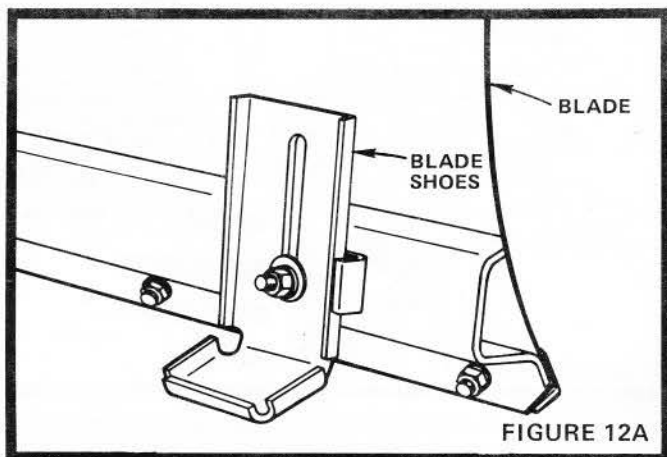

FIGURE 12A
13. Reassemble Blade Shoes on ends of Blade as shown in Fig. 12A.